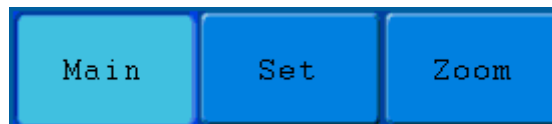

Fig. 26 Time Base Mode Menu
3. **HORIZ MENU** button: with this button pushed down, the screen shows the operating menu (see **Fig. 26**).